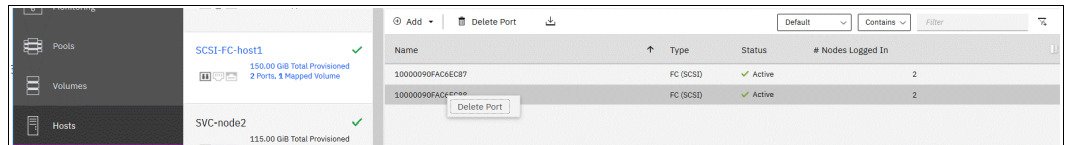

Figure 7-71 Deleting the host port
1. Highlight the single host port or select multiple ports in the list, and click **Delete Port**, or right-click any of them and click **Delete Port** (see Figure 7-71). To select multiple host ports, use the Ctrl or Shift key.